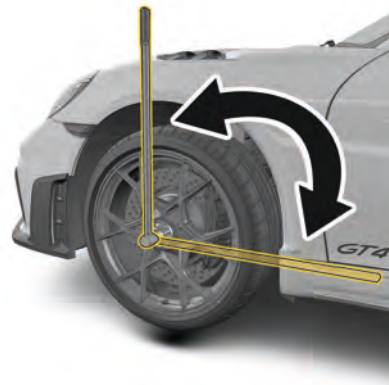

Fig. 212: Tighten the central bolt and loosen it again
1. Tighten the central bolt with great force using a long lever and loosen again by 1/4 turn (Fig. 212).